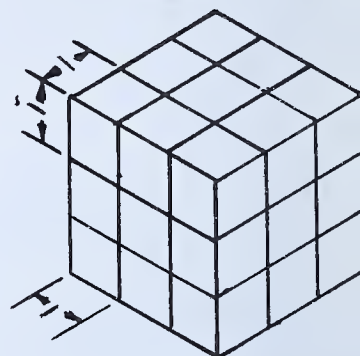

FIG. 256 — Volume
**VOLUME** — Fig. 256. The cubic contents of a container; the number of cubic inches contained in a mass.  $3 \times 3 \times 3 = 27$ .